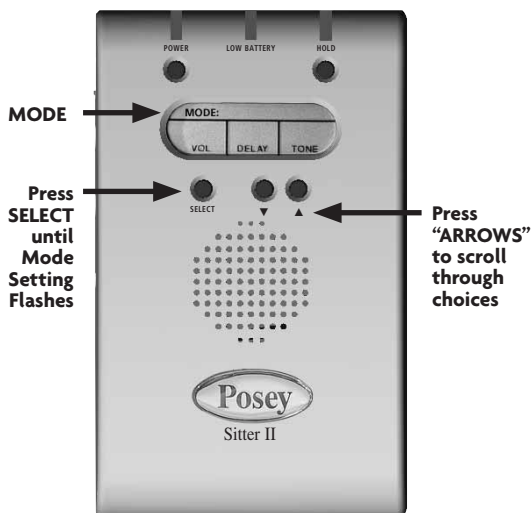

Fig. 3a
2. Press the SELECT button until the mode setting blinks (fig. 3a)